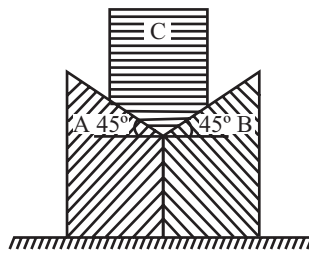

Fig. 3
- (c) Block C, shown in Fig. 3 has a mass of 100 kg. and identical blocks A and B have masses of 75 kg. each are placed on the floor as shown. If coefficient of friction is $\mu = 0.2$ for all mating surfaces, can the arrangement shown in the diagram remain in equilibrium?